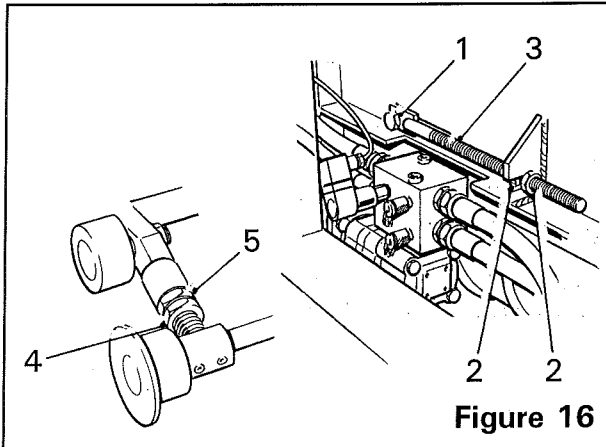

Figure 16
On early machines, tracking adjustment is made by loosening the mounting bolts (*item 1, figure 16*) and turning the locknuts (*item 2, figure 16*) to reposition the adjusters (*item 3, figure 16*). On later machines, loosen the roller support locknuts (*item 4, figure 16*) and turn the adjuster nuts (*item 5, figure 16*).